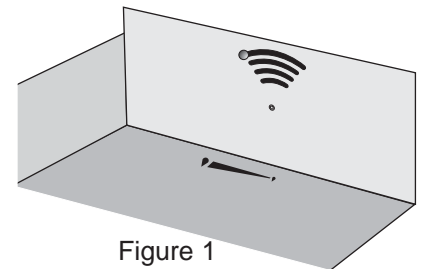
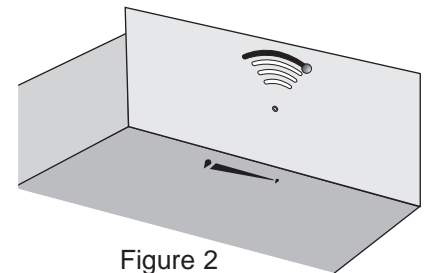

Figure 1
Figure 2
The humidity controller is located on the inside of the warmer drawer and used to control humidity in the warmer drawer. The humidity control knob can be set at any position between Moist  (Figure 1) and Crispy  (Figure 2) position. To set the humidity controller, slide the humidity control knob to the desired location.
3. Locate glide lever on each side of drawer, pull up on the right glide lever and push down on the left glide lever (See Figure 1).
1. **Pull the plastic slider to the front** of the glide slots on each side of the drawer cavity (See Figure 2).